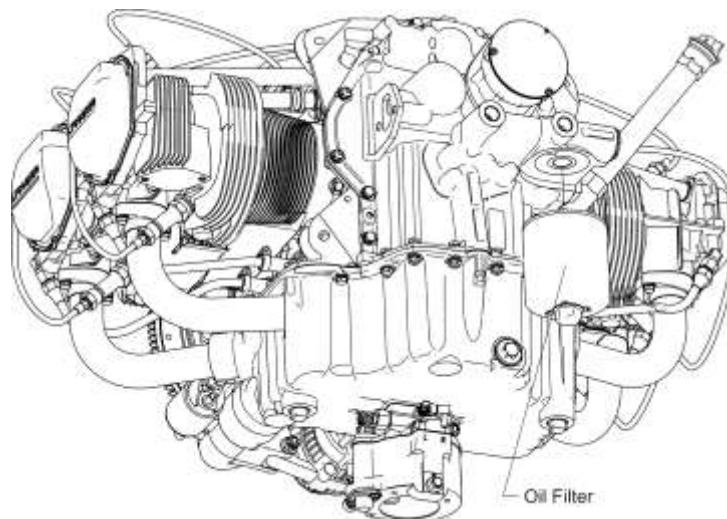

Figure 3
- A. Remove the oil filter (Figure 3) from the engine.